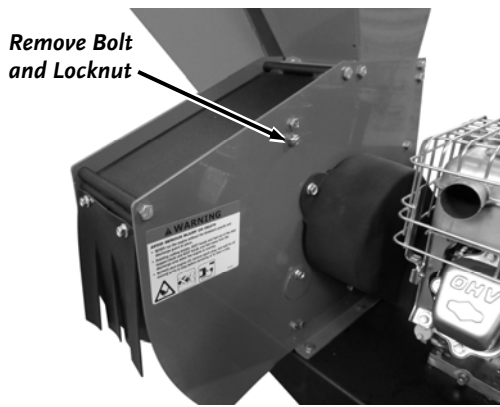

Figure 20
1. Remove the top Screen Bolt and Locknut using two 1/2" Wrenches (**Figure 20**).